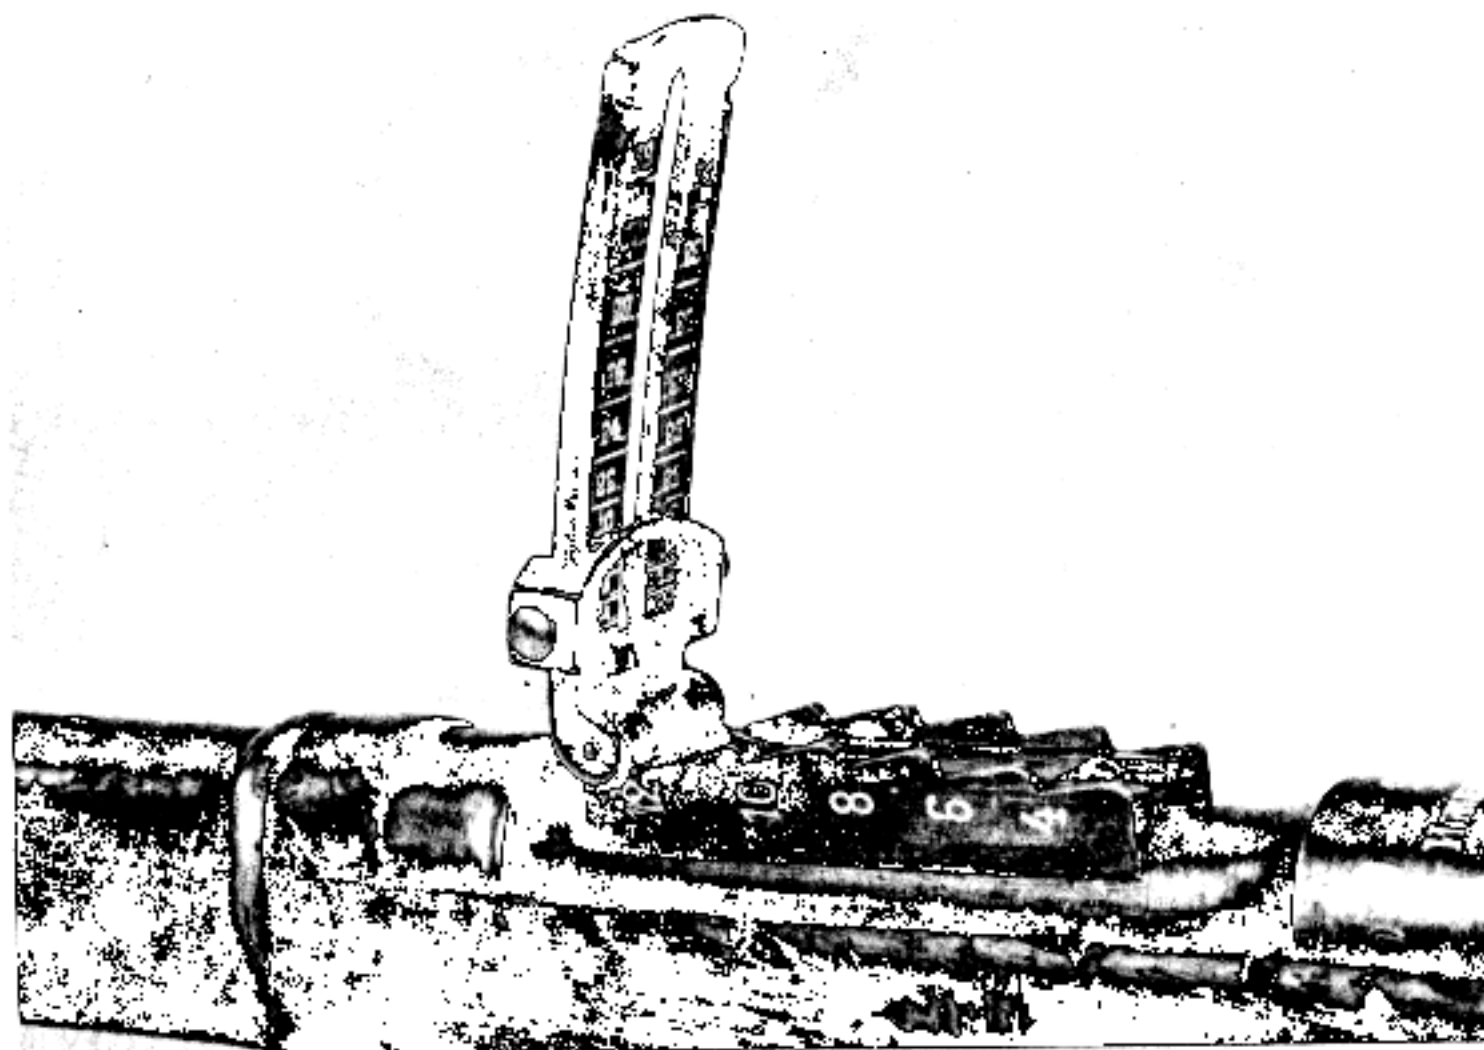

FIGURE 2. REAR SIGHT FOR RIFLE M1891.
a. This rifle has a notched-ramp leaf-type rear sight (fig. 2) which has no provision for windage. The sight is graduated from 400 to 3,200 arshins (312 to 2,423 yards).